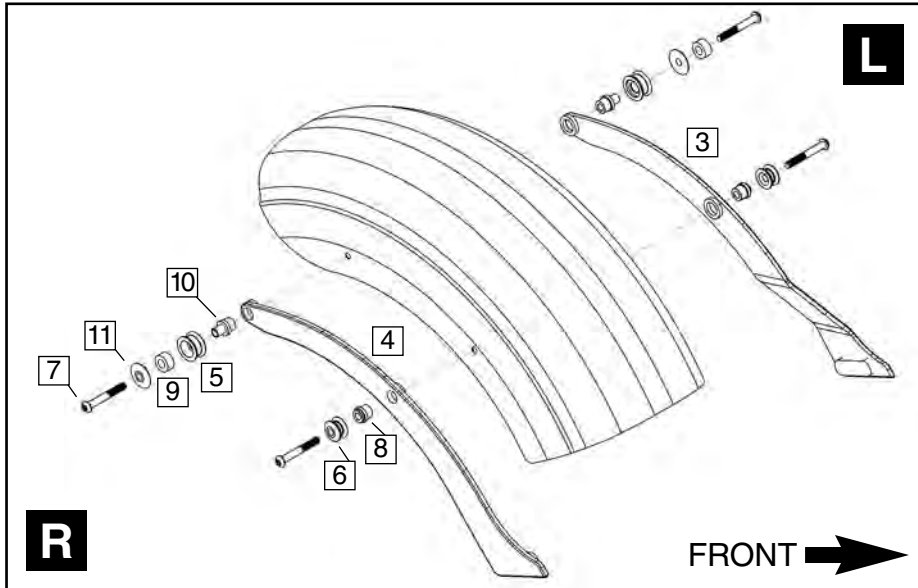

Figure 1
Figures 1 and 2
3. Repeat steps 1-2 for the left side with Front and Rear Spool Assemblies and Fender Eyebrow (3). **(5mm Hex Wrench, Thread Lock)** **Figures 1 and 2**